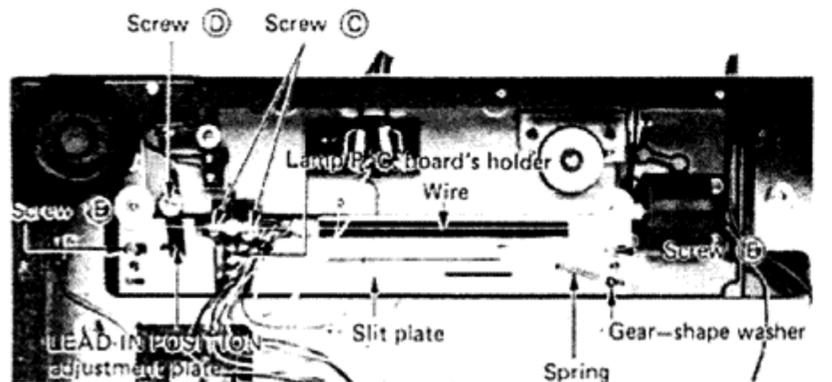

Fig. 2
- 4) Remove the two screws ③ shown in Fig. 2 and take off the lamp P. C. board's holder. As a wire used for driving the tonearm base is stretched across the area above the screws, keep this wire out of the way with your fingers.
- 5) Remove screw ④ shown in Fig. 2 and detach the LEAD-IN-POSITION adjusting plate.
- 7) Remove the two screws ⑤ shown in Fig. 2 and remove the slit plate.